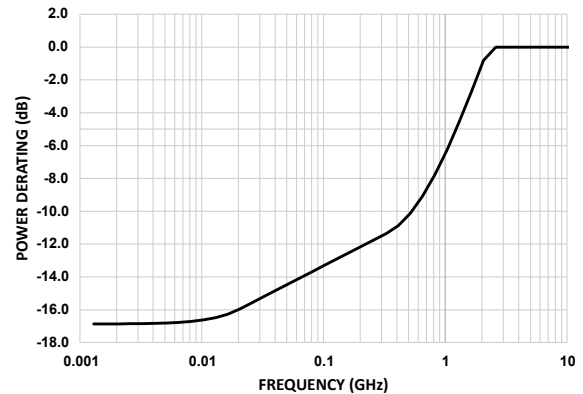

Figure 2. Power Derating vs. Frequency, Low Frequency Detail, T_{CASE} = 85°C
² For power derating over frequency, see Figure 2. Power derating is applicable for all ATTIN and ATTOUT power specifications.
- ¹ For power derating vs. frequency, see Figure 2.